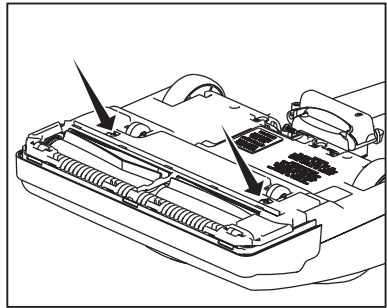

Fig. 1
- Turn the two screws a quarter turn to release the bottom plate (Fig. 1). Remove the bottom plate.